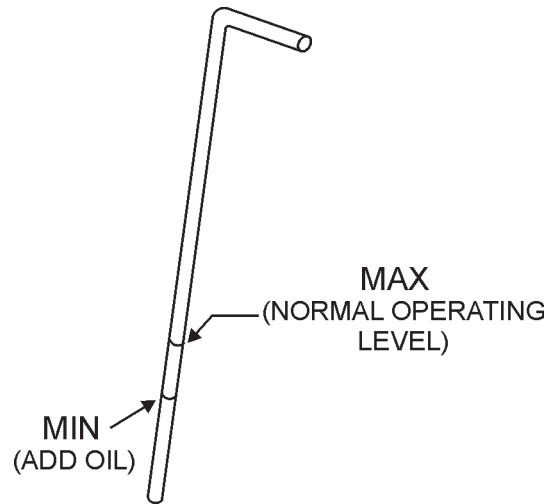
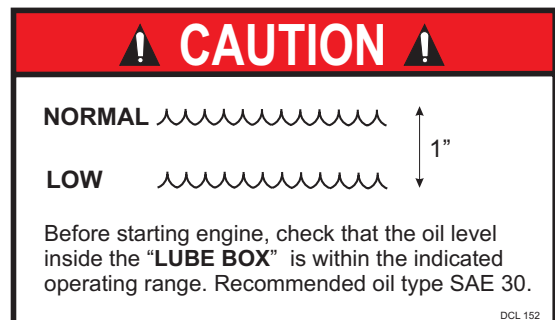

Figure 16. Lubrication Box Dipstick
Figure 17. Lubrication Box Oil Caution Decal
Before using your new pump, 7 gallons of SAE 30 motor oil must be added directly into the lubrication box. Visually inspect the oil in the lubrication box by making sure the oil is at the correct operating level as indicated by the dip stick (Figure 16).
Also reference the oil level decal (Figure 17) adjacent to the lubrication box.
1. Turn the throttle control knob fully counter-clockwise to set the engine speed to **IDLE**. (Figure 17.)
Visually inspect the oil in the lubrication box (Figure 16) by making sure the oil is at the correct operating level as indicated by the dip stick. Also reference the oil level decal (Figure 17) adjacent to the lubrication box.